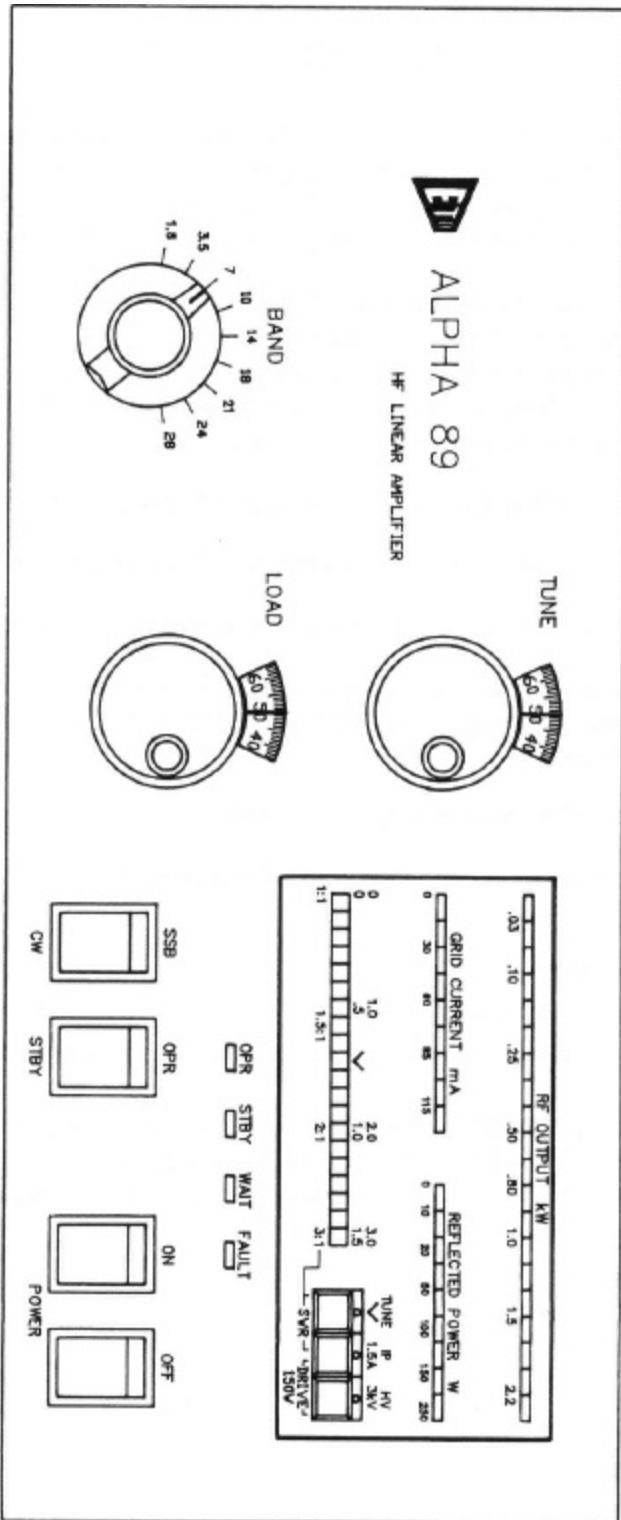

FIGURE 6
5.0 CONTROL & INDICATOR FUNCTIONS (See fig. 6, page 10)